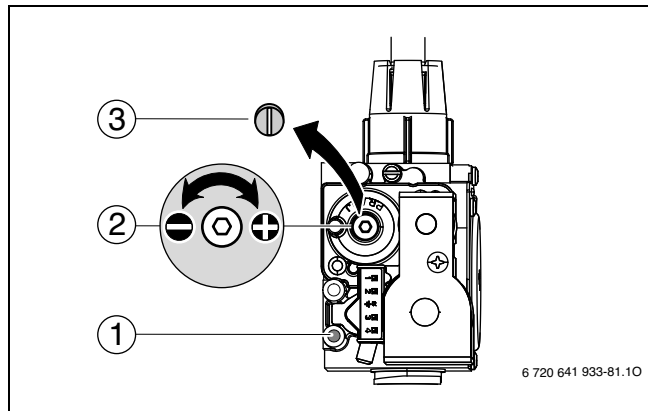
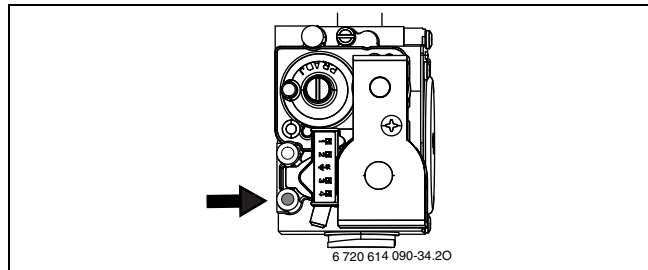

Fig. 78 Set CO2 or O2 level for minimum nominal output
Fig. 79 Dynamic gas pressure test port
- ▶ Remove the sealed screw (→ Fig. 78, [3]) from gas valve adjustment screw (→ Fig. 78, [2]) and set CO2 or O2 level for minimum nominal output.
- ▶ Reinstall the screw (→ Fig. 78, [3]) to cover the gas valve adjustment screw.
- ▶ Loosen the screw in the test port for gas inlet pressure ( . Fig. 78, [1]) and connect a pressure gauge (→ Fig. 79).